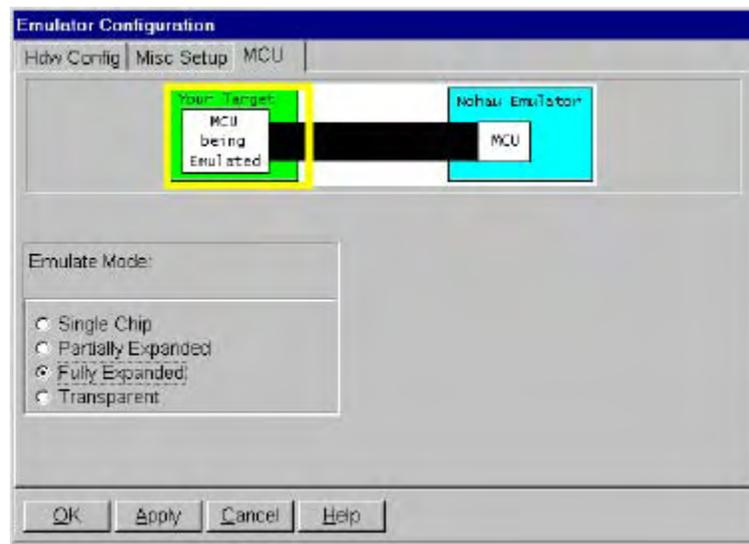

Figure 85. Emulator Target Configuration
8. The **MCU** dialog box has two distinct areas: The top area has a graphic that has what appear to be two boards connected by a black ribbon. Move your cursor over the left part labeled **Your Target – MCU being Emulated** and click it. A colored box will move to the left and a secondary dialog box appears with four option buttons (Figure 85). This area represents the chip that the emulator is pretending to be.